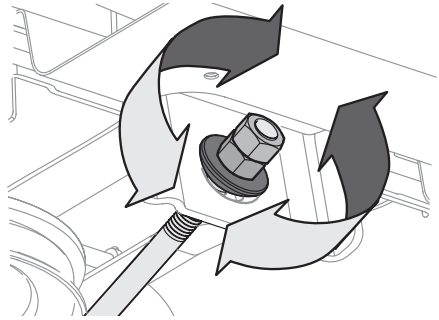

Figure 37
4. To **raise** the front of the deck, loosen the outer nut then tighten (thread inward) the inner nut against the front hanger bracket. See Figure 37. When proper adjustment is achieved, re-tighten the outer nut to 25-30 ft-lbs (34 mm-40.7 N-m).
5. To **lower** the front of the deck, loosen the outer nut then loosen (thread outward) the inner nut, away from the front hanger bracket. See Figure 37. When proper adjustment is achieved, re-tighten the outer nut.